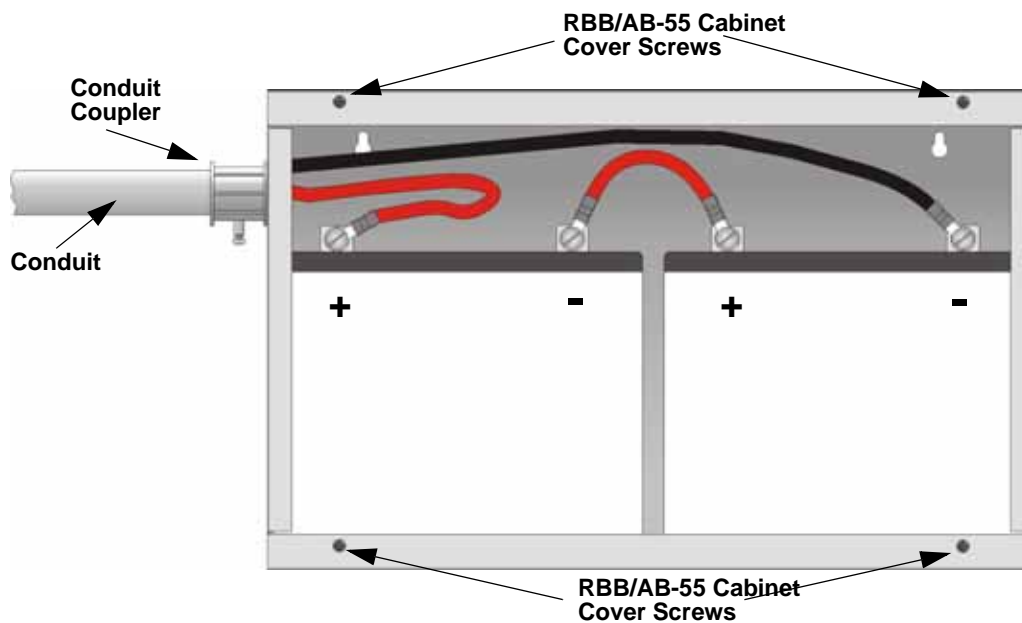

Figure 4-5 Battery Connections in the RBB or AB-55 Cabinet
See Figure 4-5.
Note: Figure 4-5 is an example of how the wire connections can be routed. However, any other cabinet knock-outs (on either the main control panel or the RBB/AB-55 cabinet), that are not previously being used may be utilized to connect conduit between the two cabinets.
4. Connect battery leads to the backup battery terminals. See Figure 4-5.
5. Insert the RBB or AB-55 cover screws into the cover mounting holes (see Figure 4-5).